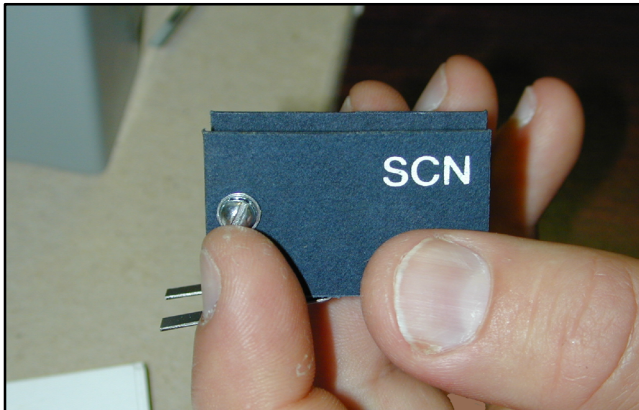

Figure 7-11 Microswitch Insulator with Label
7. Remove the holding screws. Note the microswitch labels on the insulators. See Figure 7-11.